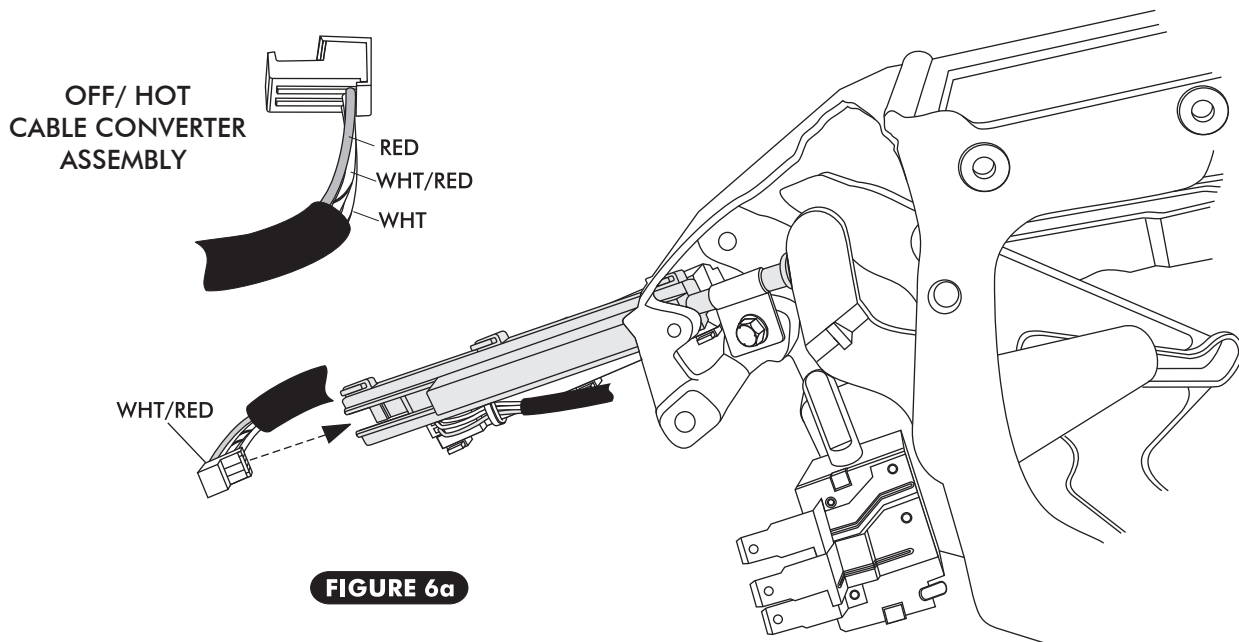

FIGURE 6a
- LOCATE THE CONTROL PANEL WIRE HARNESS, PLUG THE CORRESPONDING WIRES INTO THE CORRECT CABLE CONVERTER ASSEMBLY AS SHOWN IN FIGURE 6a BELOW.